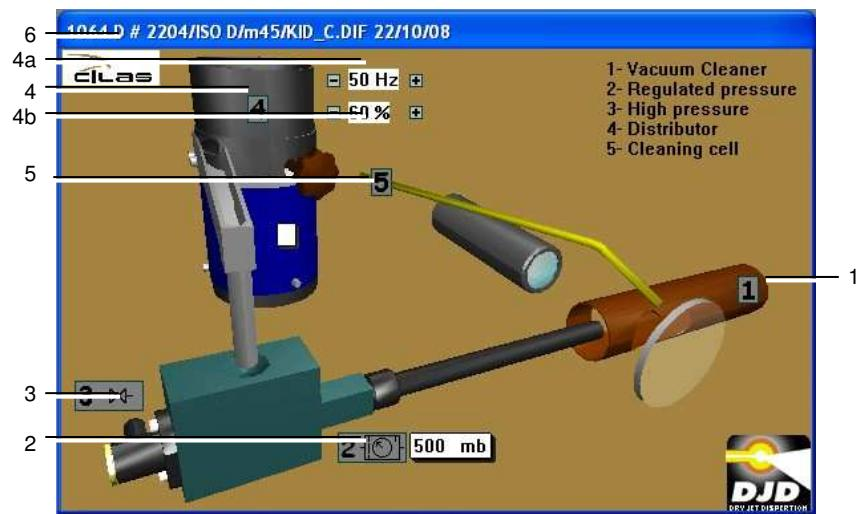

Figure 36: startup display in dry mode .
Putting a checkmark beside *Vacuum cleaner system* and/or *Pressure* activates the external vacuum cleaner system and the pressure regulator respectively at the entry to the funnel (Figure 36, ref. 2) during the Background measurement.
When *Pressure* is checked, the pressure regulator at the entry to the funnel (Figure 36, ref. 2) is activated with a set level specified on the right. *Stop after sensing obscuring peak* enables you to halt the measurement cycle when the obscuring returns to zero (there is no more sample left in the vibrating bowl).